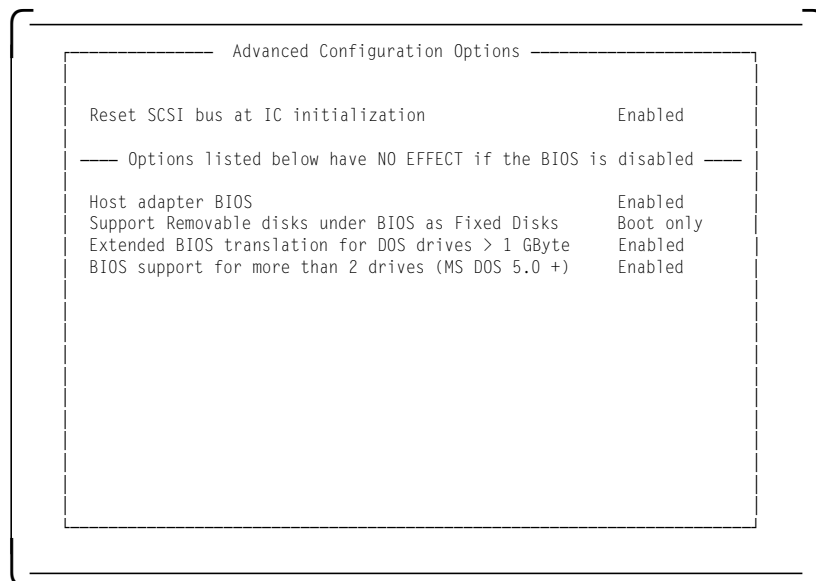

Figure 37. PC Server 320 SCSISelect Utility Program - Advanced Configuration
1. Send Start Unit Command and Include in BIOS Scan have no effect if BIOS is disabled in the Advanced Configuration Options panel (see Figure 37).
A screen like the one in Figure 37 will appear.